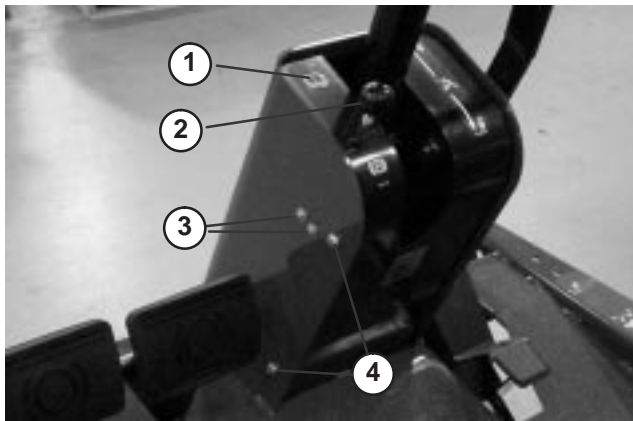

Figure 39
2. Remove knob from parking brake rod and screws from steering tower cover (Fig. 39).
4. Loosen screws and nuts securing parking brake switch to left side of steering tower (Fig. 39).